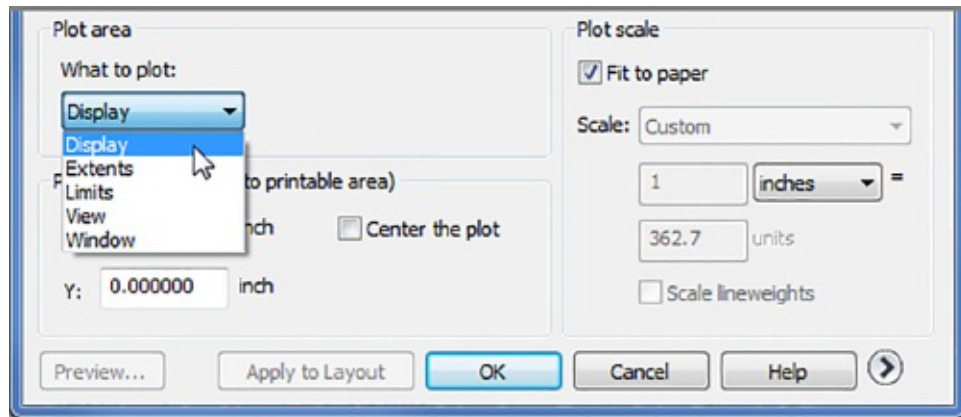

FIGURE 8.2 Choose the Display option.
6. In the Plot Area group, select the Display option from the What To Plot drop-down list (see Figure 8.2). This tells AutoCAD to plot the drawing as it appears in the drawing window. You also have the option to plot the limits of the drawing or to select an area to plot with a window. In addition, you can choose to plot the extents of a drawing or a saved view.